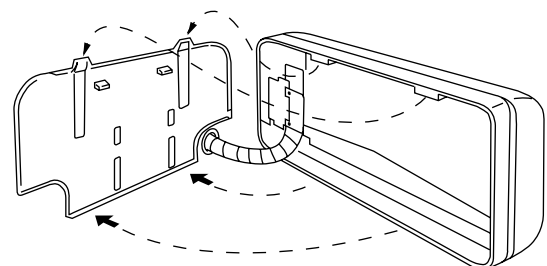
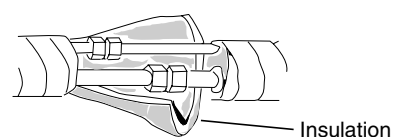

Fig. 3-106
Fig. 3-107
- (2) Push the wiring, refrigerant tubing, and drain hose through the hole in the wall. Adjust the indoor unit so it is securely seated on the rear panel. (Fig. 3-106)
- (3) Carefully bend the tubing (if necessary) to run along the wall in the direction of the outdoor unit and then tape as far as the fittings. The drain hose should come straight down the wall to a point where water run off won't stain the wall.
- (4) Connect the refrigerant tubing to the outdoor unit. (After performing a leak test on the connecting part, insulate it with the tubing insulation. (Fig. 3-107))
- (5) Assemble the refrigerant tubing, drain hose, and inter-unit wiring as shown in Fig. 3-107.